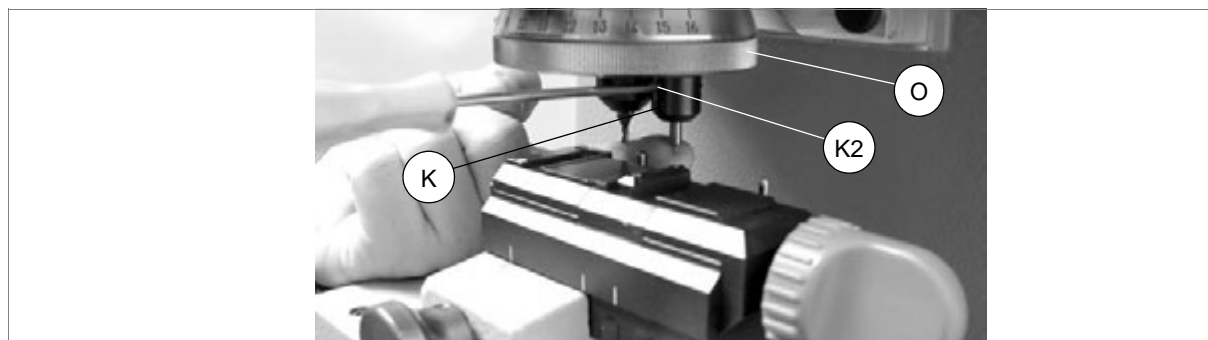

Fig. 40
- Fit the decoder U111DC and use a screwdriver to turn the decoder height regulation cam screw (K2) so that when the decoder is fitted it can be positioned as high as possible. Tighten the grub screw (K) to secure the decoder (fig. 40).